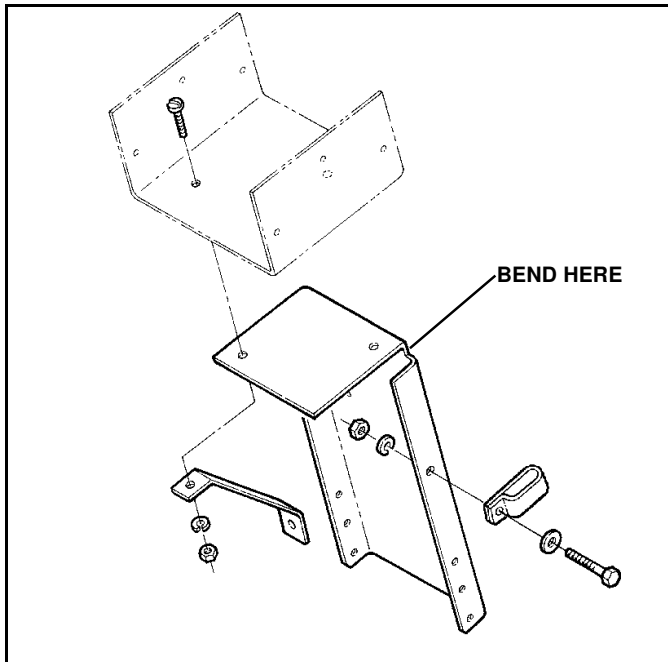

Figure 1-4
1. Attach the Brace Strap to the Stand Plate with one #10-24 x 1/2" Round Head Machine Screw, Lock Washer and Nut. (See Figure 1-4)